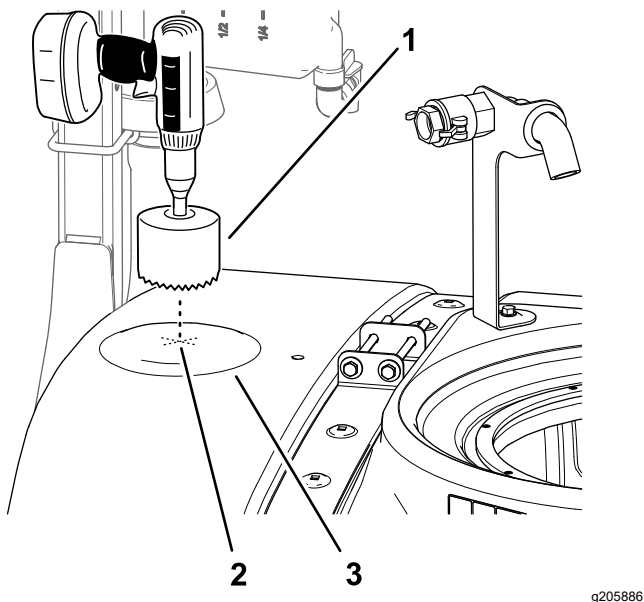

Figure 27
2. Locate the forward location on the top of the tank as shown in Figure 27.
3. Use a 9 cm (3-5/8 inch) hole saw to drill a hole at the drill mark (Figure 27).